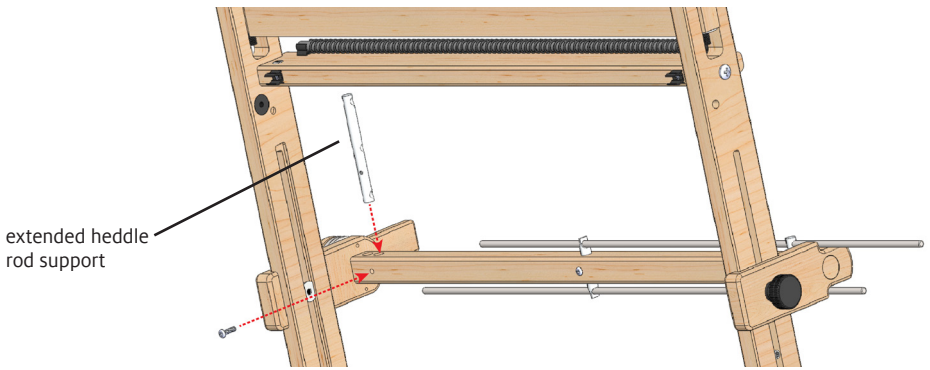

FIGURE 6: INSTALL EXTENDED HEDDLE ROD SUPPORT IN SHEDDING DEVICE
6. Install one extended heddle rod support in its place, with the longer end at the top as shown in Figure 6, and use the screw from Step 5 to attach it. Slide the heddle rods back into the extended heddle rod support and secure the rods with O-rings.